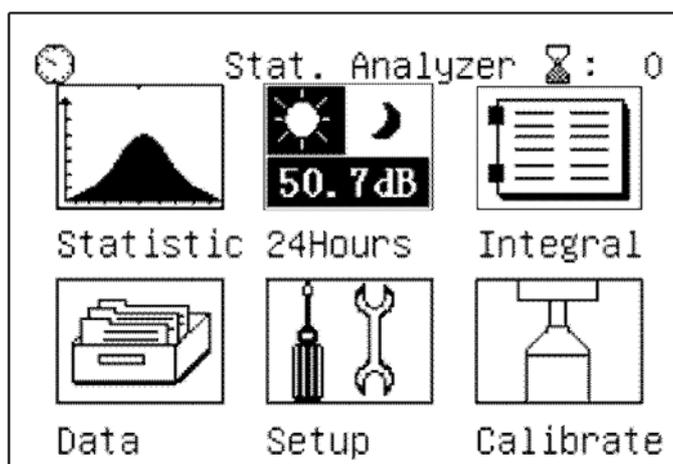

Fig. 14: Selection of 24Hours analysis
- Use the keys “**C**” or “**D**” to select the “**24Hours**” icon (see Fig. 14) and confirm with “**←**”.